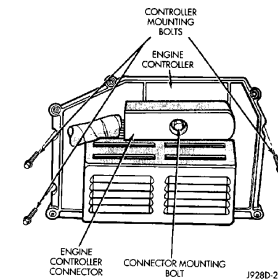

Fig 2
1. Remove the 60 way connector for the wiring harness using an 8mm socket (Fig. 2)
2. Using the same socket, remove the (3) module mounting screws (Fig. 2)